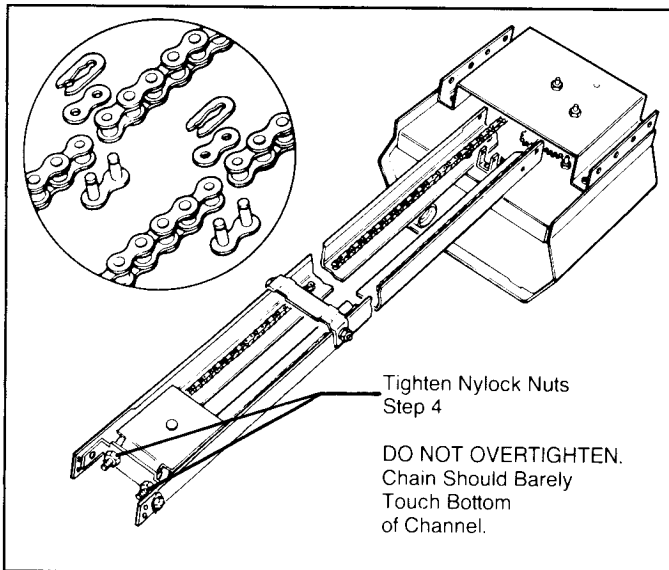

Figure 3. Chain Adjustment.
Step 3: Locate two each chain master links. Connect the two chain ends of the operator head to the two chain ends of the channel assembly. Make sure there are no kinks and the chain is properly oriented. After connecting the chain ends, remove the ties holding the operator head chain. (See Figure 3.)
Step 4: At the channel end turn U bolt nuts to tighten chain. Adjust nuts evenly until chain is taut. See Figure 3. (Do not over-tighten.)